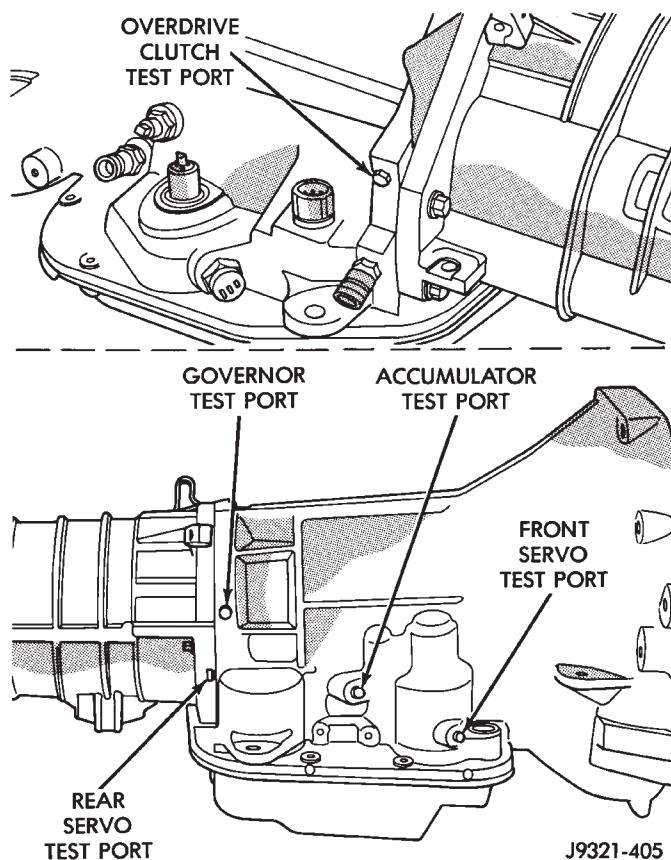

Fig. 3 Pressure Test Port Locations
There are pressure test ports at the accumulator, front servo, and rear servo. Governor and overdrive clutch pressure test ports are located at the left and right rear sides of the case (Fig. 3).
The rear servo and governor pressure ports are at the right rear of the transmission case. The overdrive clutch pressure port is at the left rear of the case (Fig. 3).
- (1) Connect 100 psi Gauge C-3292 to accumulator port.
- (2) Connect 300 psi Gauge C-3293 to rear servo port (Fig. 3).
- (3) Disconnect throttle and gearshift cables from transmission levers.
- (4) Start and run engine at 1000 rpm.
- (5) Move shift lever (on manual lever shaft) all the way forward into 1 range.
- (6) Move transmission throttle lever from full forward to full rearward position and note pressures on both gauges.
- (7) Line pressure at accumulator port should be 54-60 psi (372-414 kPa) with throttle lever forward and gradually increase to 90-96 psi (621-662 kPa) as lever is moved rearward.
- (8) Rear servo pressure should be same as line pressure within 3 psi (20.68 kPa).
- (1) Connect test gauge to accumulator pressure port (Fig. 3).
- (2) Start and run engine at 1000 rpm.
- (3) Move transmission shift lever one detent rearward from full forward position. This is 2 range.
- (4) Move transmission throttle lever from full forward to full rearward position and read pressure at both gauges.
- (5) Line pressure should be 54-60 psi (372-414 kPa) with throttle lever forward and gradually increase to 90-96 psi (621-662 kPa) as lever is moved rearward.
- (1) Connect test gauges to accumulator and front servo ports (Fig. 3). Use either test gauge at the two ports.
- (2) Start and run engine at 1600 rpm for this test.
- (3) Move shift lever two detents rearward from full forward position. This is D range.
- (4) Read pressures on both gauges as transmission throttle lever is moved from full forward to full rearward position.
- (5) Line pressure should be 54-60 psi (372-414 kPa) with throttle lever forward and gradually increase as lever is moved rearward.
- (6) Front servo is pressurized only in D range and should be same as line pressure within 3 psi (21 kPa) up to downshift point.
- (1) Connect 300 psi gauge to rear servo port (Fig. 3).
- (2) Start and run engine at 1600 rpm for test.
- (3) Move transmission shift lever four detents rearward from the full forward position. This is Reverse range.
- (4) Move throttle lever all way forward then all way rearward and note gauge readings.
- (5) Pressure should be 145 - 175 psi (1000-1207 kPa) with lever forward and increase to 230 - 280 psi (1586-1931 kPa) as lever is moved rearward.
- (1) Connect 100 psi Test Gauge C-3292 to governor pressure port (Fig. 3).
- (2) Move transmission shift lever to D range.
- (3) Start and run engine at curb idle speed and note pressure. At idle and with vehicle stopped, pressure should be zero to 1-1/2 psi maximum. If pressure exceeds this figure, a fault exists in the governor pressure control system.
- (4) Slowly increase engine speed and observe speedometer and pressure test gauge. Governor pressure should increase in proportion to vehicle speed. Or approximately 1 psi for every 1 mph.